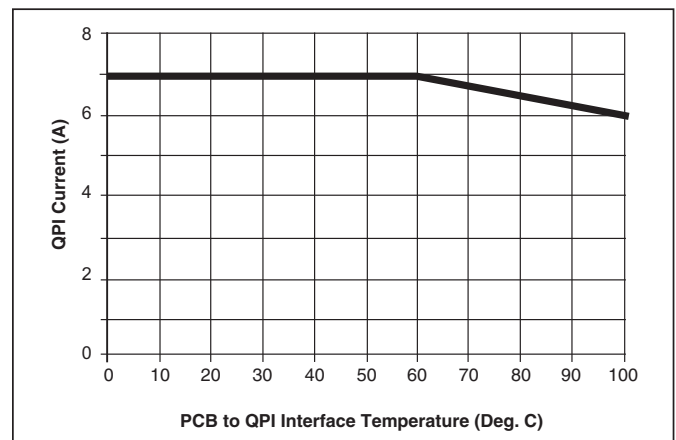
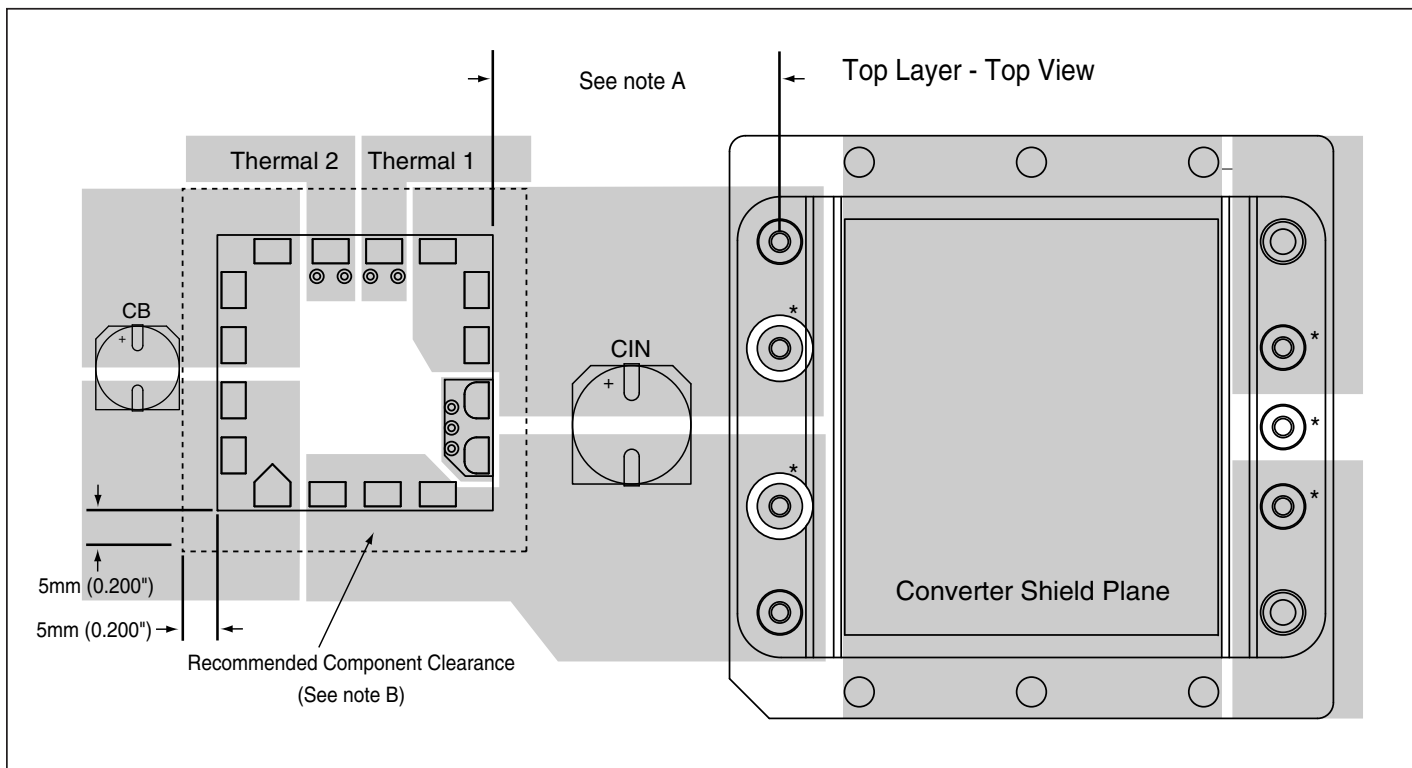

Figure 5 – QPI-4 current derating curve.
Figure 9 – Recommended layout for top layer of PCB. Pattern shows optional pins (*) dependent on converter used in design.
- -40° to +100°C PCB temperature (See Fig. 5)
Note 1: Refer to Figures 9 & 10 for PCB layout guidelines to achieve this thermal resistance when re-flowed onto the PCB.
Note 3: Refer to Figure 5 for current derating curve.
Application of the QPI-4 requires PCB layout practices similar to those used with passive EMI filters. The circuit in Figure 6 and the PCB layout in Figures 9 & 10 should be used as a design guide to ensure successful application of the QPI-4. Refer to the application note QPI- AN1 for additional PCB layout recommendations.
The current derating curve shown in Figure 5 should be used when the PCB temperature in close proximity of the QPI-4 exceeds 60°C. For example, the QPI-4 will support up to 6.5 A of current or 312 W from a 48 Vdc bus at an 80°C interface temperature. Temperature should be measured at the PCB interface to the QPI-4 on the Bus +/- pads or the QPI+/- pads. Refer to Figures 9, 10 & 12 for PCB layout recommendation.